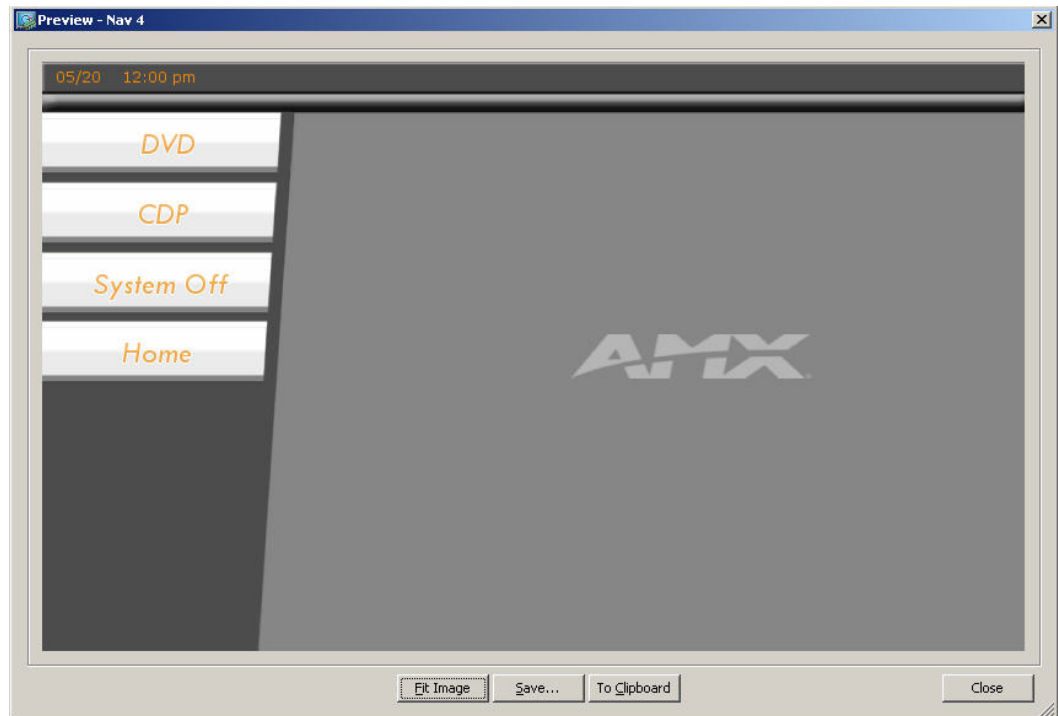

FIG. 183 Install Template From File dialog
2. Select **Touch Panel > Preview UI** (or click the Toolbar button) to preview the selected UI element in the *Preview* dialog (FIG. 183). Note that the preview is based on the selected UI element, as well as the UI template, Color Scheme and Skin selected for the touch panel.